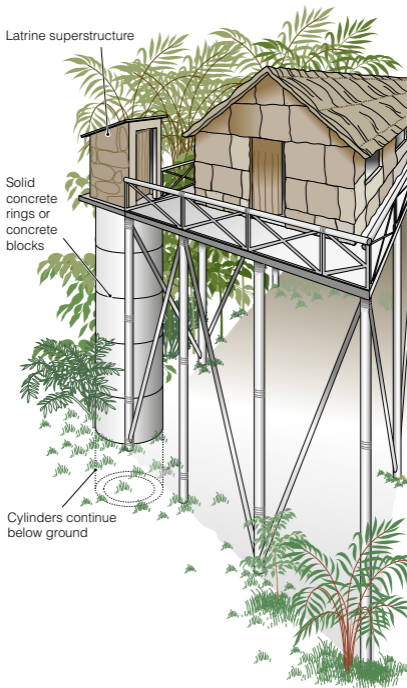

Figure 3. An elevated latrine
1. The pit can be connected to the superstructure by a solid, watertight cylinder which will carry the weight of the superstructure and act as storage space for waste material (see Figure 3).